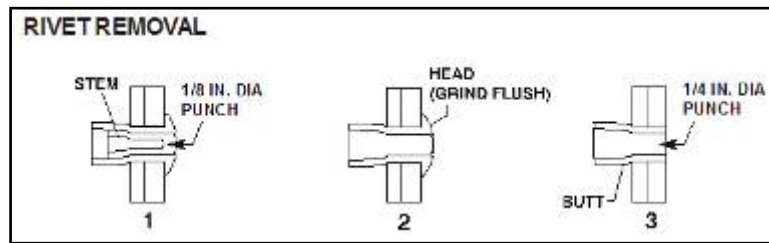

Figure 6b.
1. Punch out stems, grind heads, and punch 26 rivet butts (5) through B-pillar hat section (4) and vehicle B-pillar (3). Refer to figure 6b.